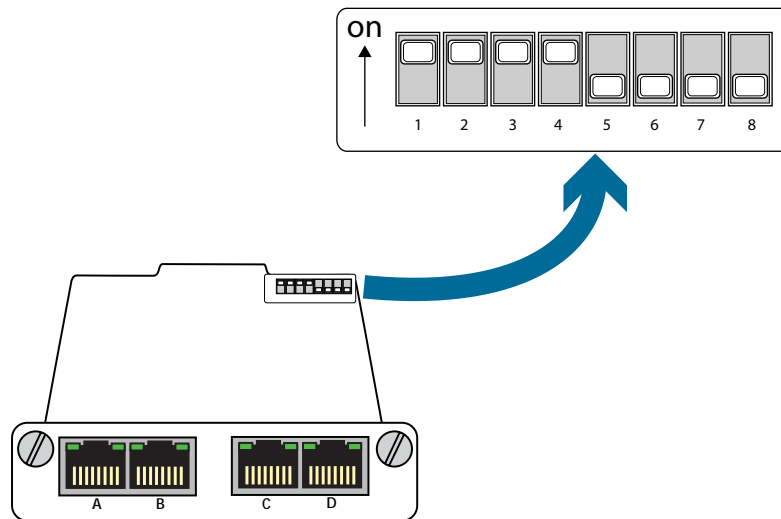

Figure 20: V-Line Breakout mode
- ❖ To set Breakout mode on V-Line (Bypass) modules, set the DIP switches as shown in Figure 20. See Appendix B, V-Line DIP Switches on page 52 for switch key.